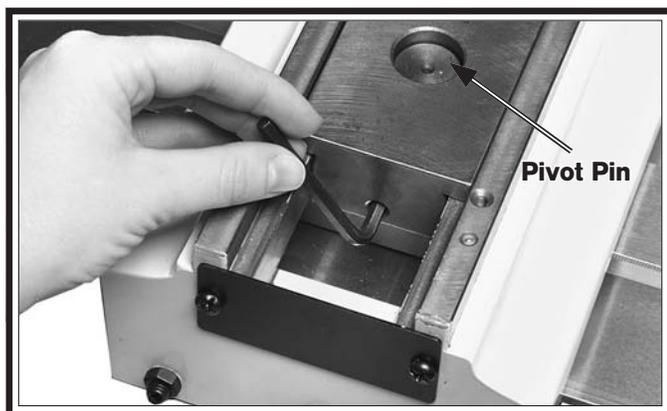

Figure 13. Pin adjustment.
20. Using a 4mm hex wrench, snug the slide block set screw so the copper plug is slightly preloaded against the pivot pin (see **Figure 13**).